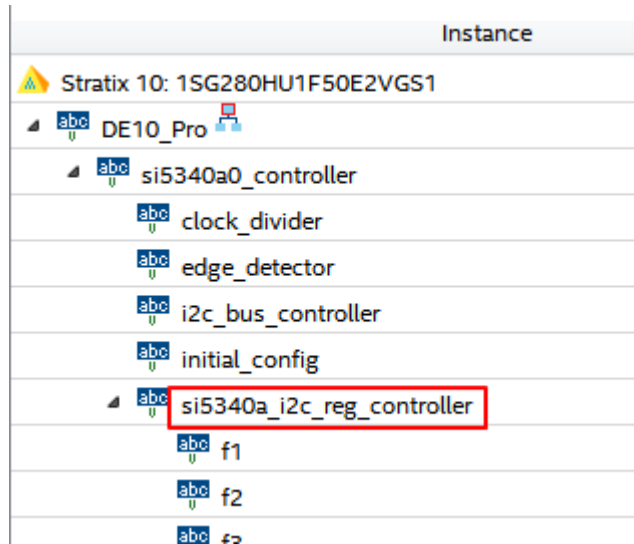
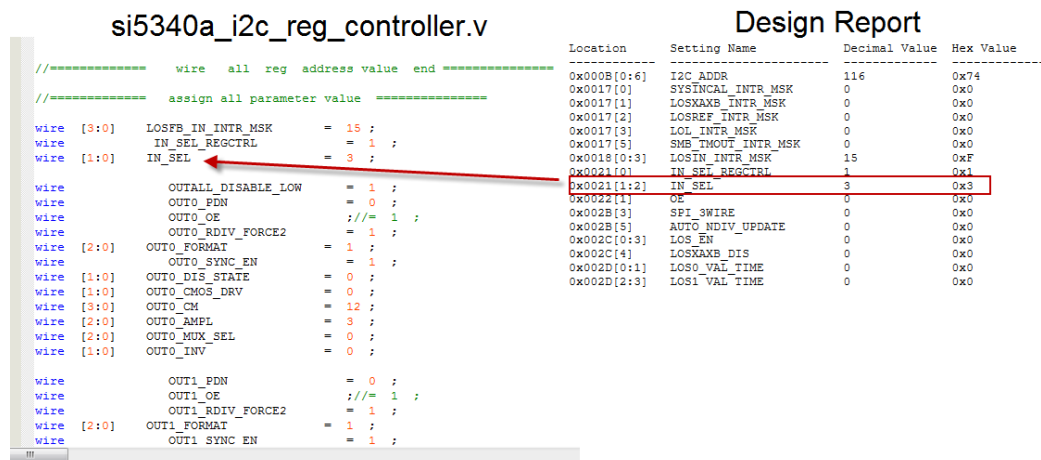

Figure 5-6 Sub-Module file "si5340a_i2c_reg_controller.v"
Figure 5-7 Modify Si5340 Control IP Base on Design Report
- Open Si5340 control IP sub-module “si5340a_i2c_reg_controller.v “ as shown in **Figure 5-6**, refer to Design Report parameter to modify sub-module corresponding register value (See **Figure 5-7**).